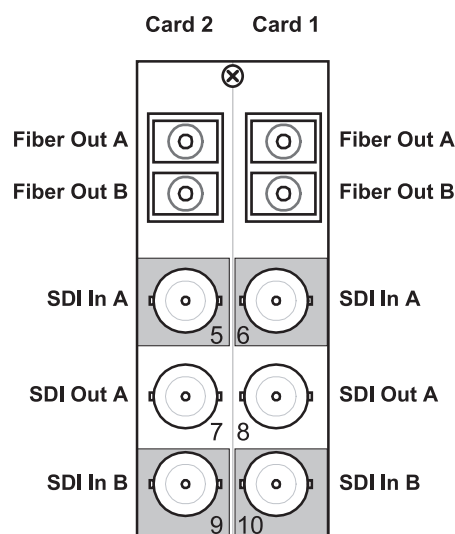

Figure 2.5 Cable Connections for the 8320AR-045 Rear Module
- **8320AR-045** Split Rear Module (R2S-6604) — Each card occupies one slot and provides two optical outputs, two SDI inputs, and one SDI output. Refer to **Figure 2.5**.